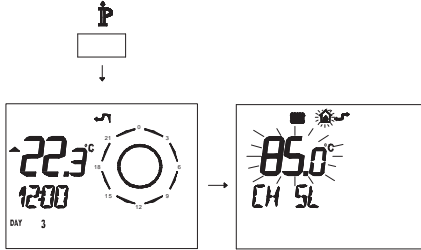

Fig. 7.28
- Press button **IP** for more than 3 seconds to enter in **INFO** mode (Fig. 7.28).